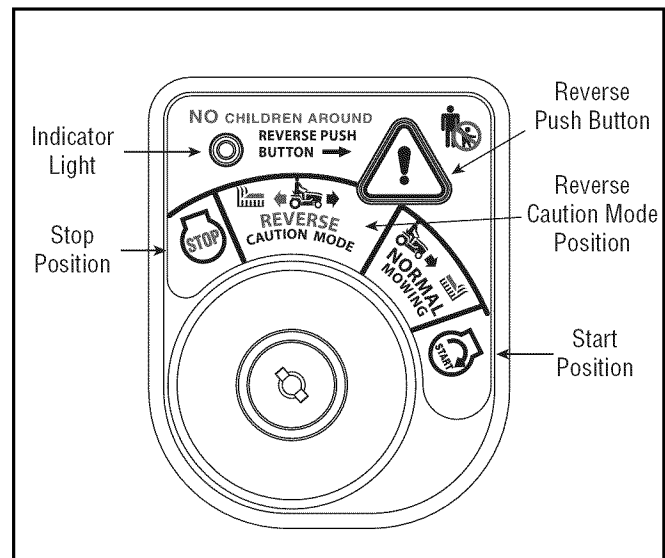

Figure 10
2. Turn the key from the **NORMAL MOWING** (Green) position to the **REVERSE CAUTION MODE** (Yellow) position of the key switch module. See Figure 10.
3. Depress the **REVERSE PUSH BUTTON** (Orange, Triangular Button) at the top, right corner of the key switch module. The red indicator light at the top, left corner of the key switch module will be **ON** while activated. See Figure 10.